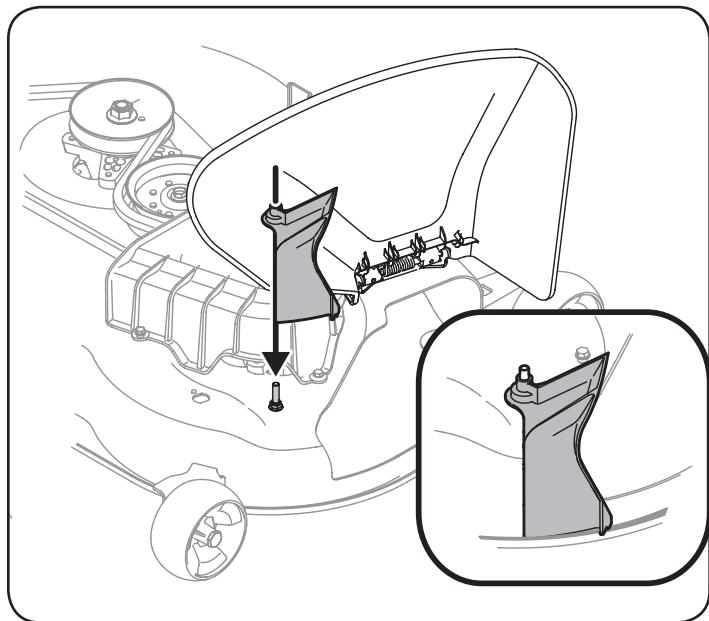

Figure 4
- On 54-inch **Stamped Decks Only**, position the chute adapter over the pin. See Figure 4.